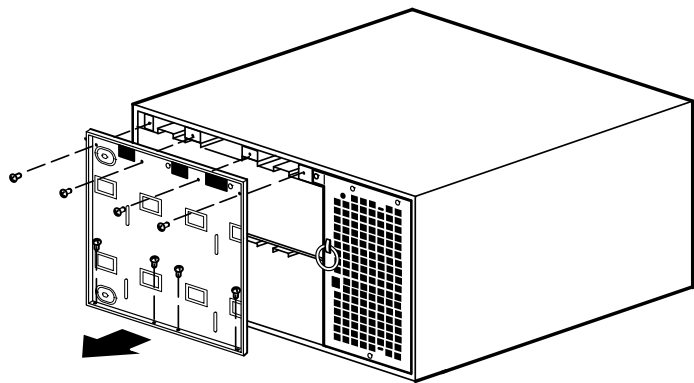

Figure 52. Removing the UPS Battery Cover Plate
2. Remove the eight screws on the battery cover plate and retain. Remove the plate and retain. See Figure 52.